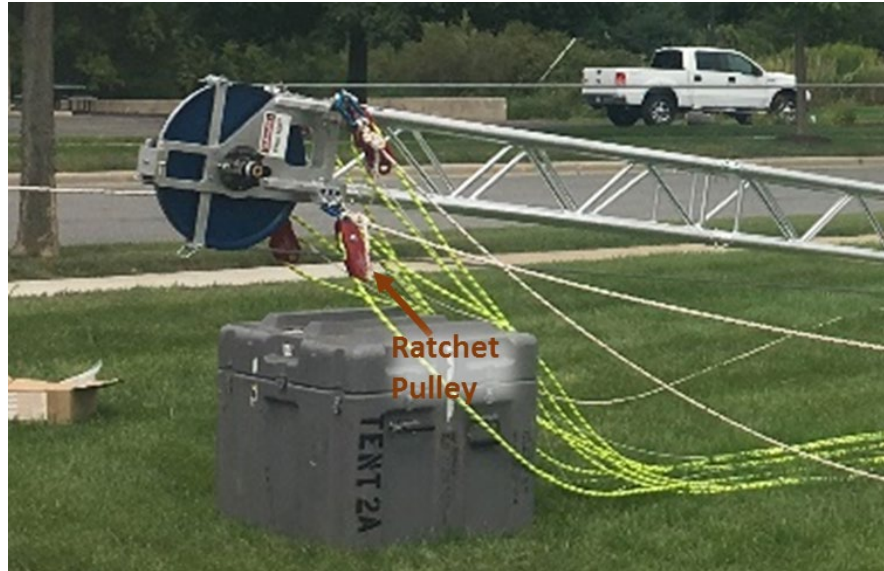

Figure 10: BID Crown Sheave with Rigging. Ratchet pulleys for tent on lower shackles and tower guy lines on upper shackles.
- 10.1.7 Route drill cable through lifting sheave and crown sheave and use lifting harness and webbing to secure cable end to two front swivel eyes on tower base (Figure 10).